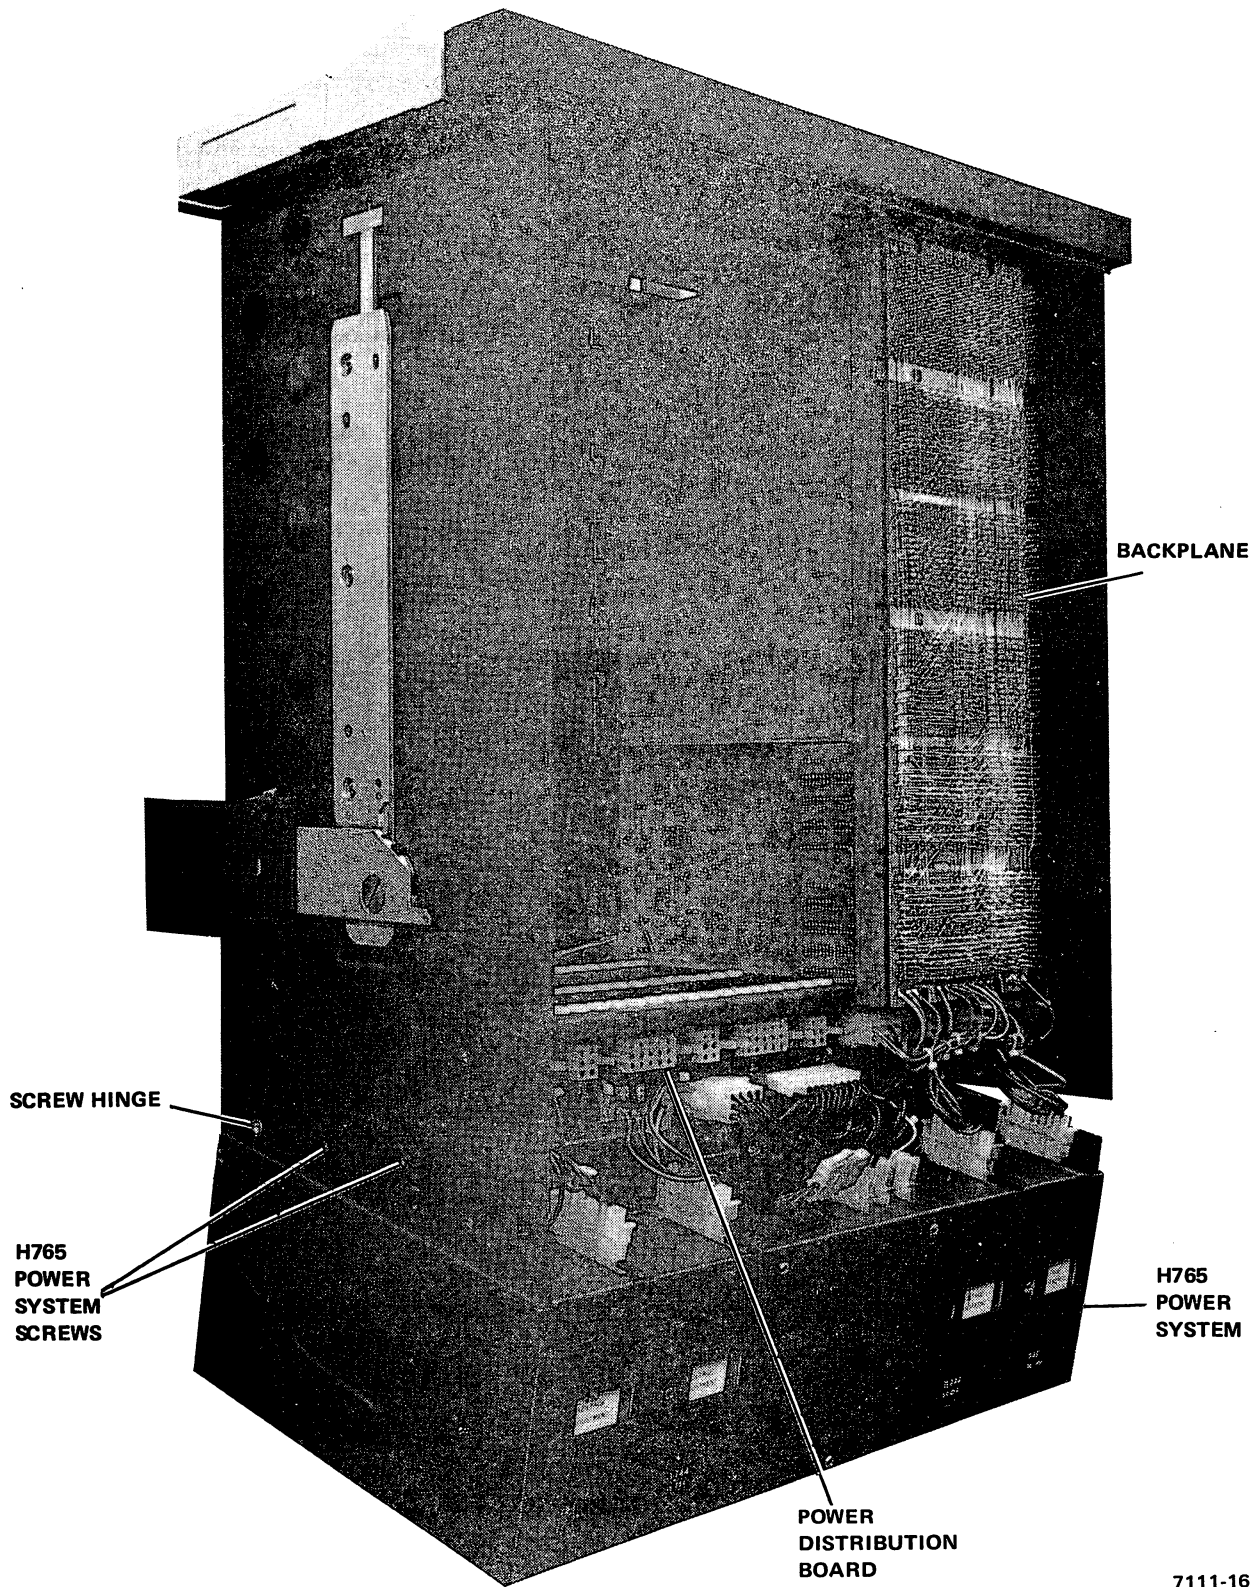

Figure 4-4 H765 Power System Access (Maintenance Position)
4.4.2 H765 Power System Access Procedure (Figure 4-4)
3. Tilt the H765 power system by removing two H765 power system screws on each side of the H765 (Figure 4-4).
3. Tilt the H765 power system by removing the two screws on each side of the H765 (Figure 4-4).